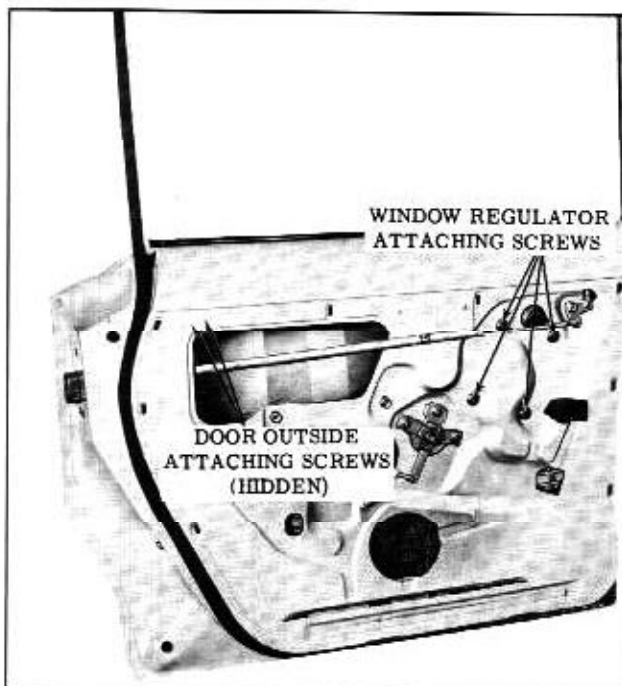

Fig. 15-41 Window Regulator and Outside Handle Attachment
4. Remove window regulator attaching screws. (Fig. 15-41) Carefully move regulator assembly rearward to disengage regulator arm roller from inner panel cam; then remove regulator from door.
- Remove screws securing outside handle and remove handle and gaskets. (Fig. 15-41)